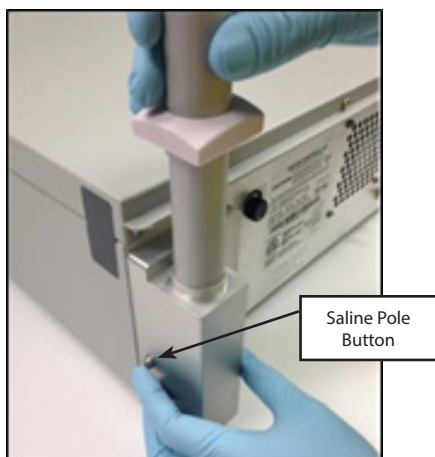

Figure 8
4. Push the button on the left side of the pole bracket and rotate the pole until it settles to the bottom of the mount (Fig. 8); the saline hook on the pole will be facing away from the Controller when the pole is oriented in the final position.